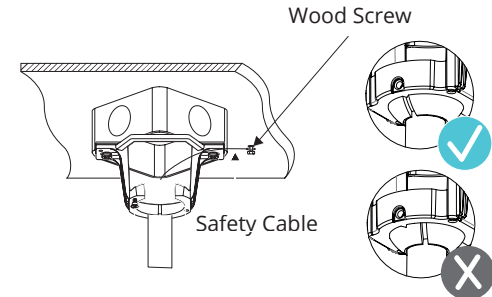

FIG. 11
3. Carefully lift the fan motor assembly up to the mounting bracket and seat the hanger ball in the mounting bracket socket. Make sure the tab on the mounting bracket socket is properly seated in the groove in the hanger ball (FIG. 11). Rotate the socket assembly until the ball drops and locks into the hanger bracket screw.
4. Secure the safety cable to the building structure using the wood screw (FIG. 11).